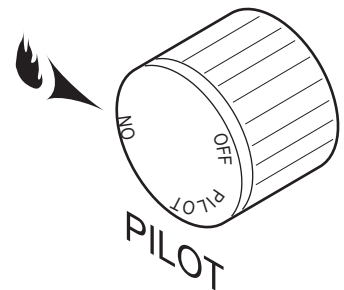

Figure 51 - On Position
Depress and turn the knob counterclockwise  to the “ON” position. *Figure 51*. It will take less than four (4) seconds for the burner to ignite.